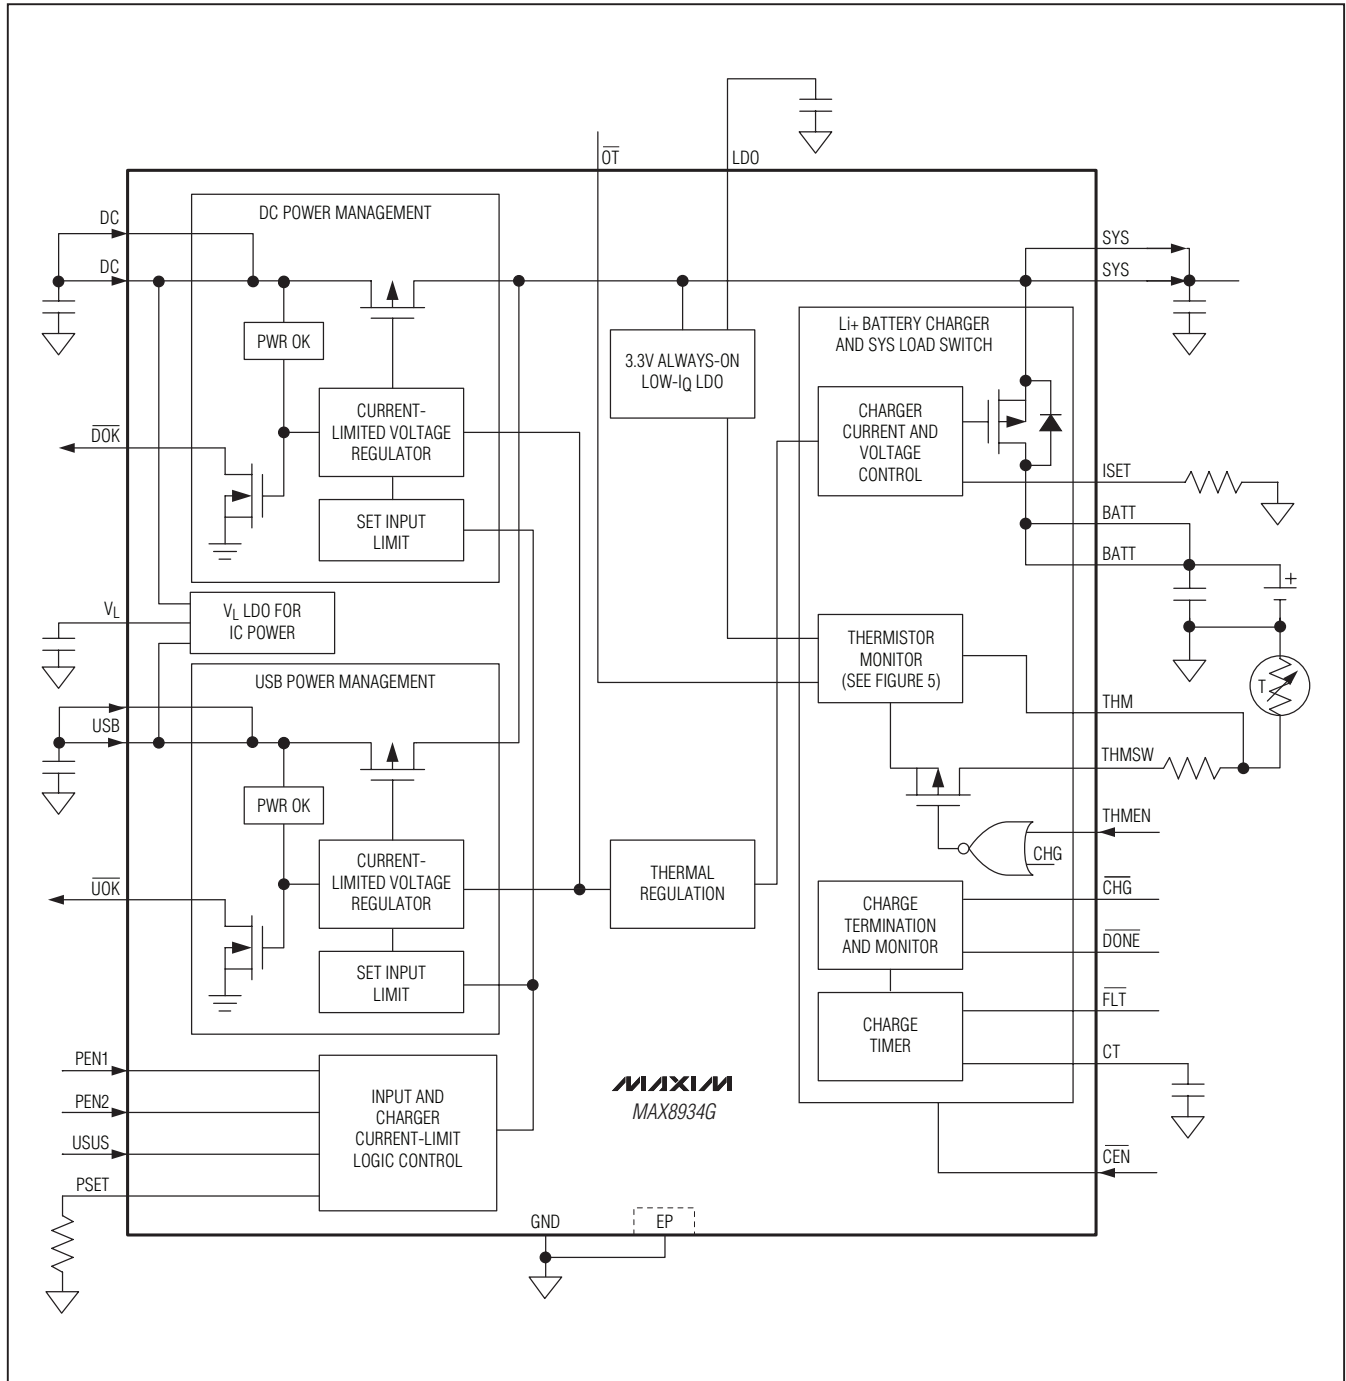
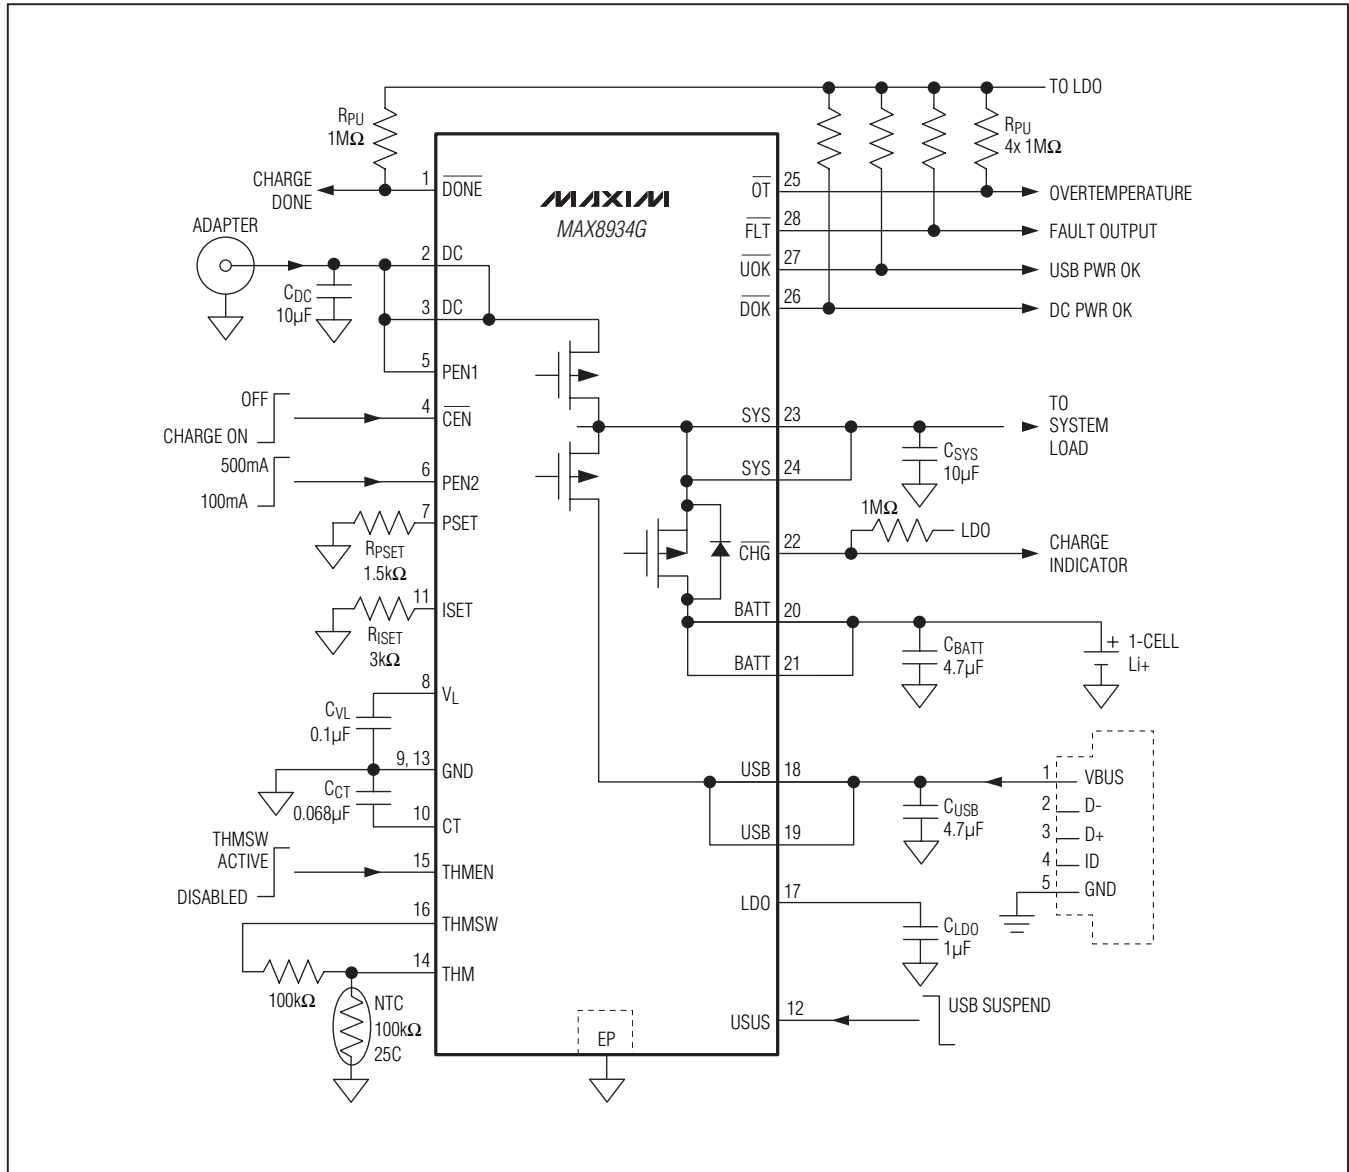
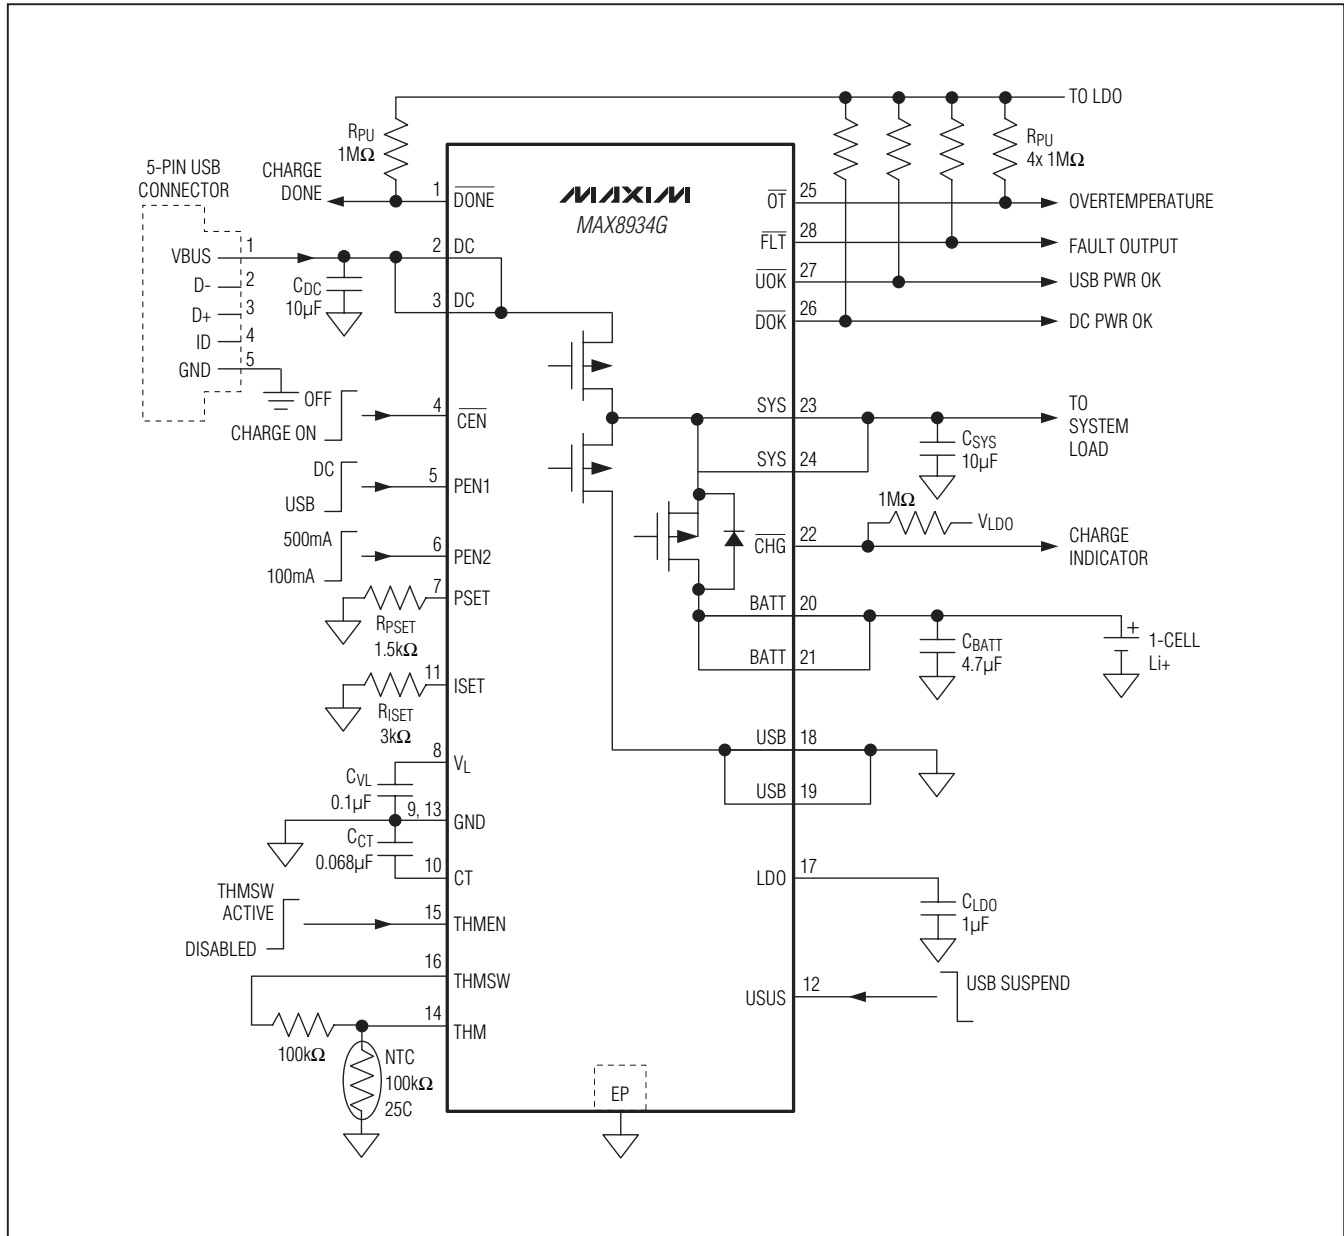

Figure 1. Block Diagram
Figure 2. Typical Application Circuit Using Separate DC and USB Connector
Figure 3. Typical Application Circuit Using a 5-Pin USB Connector or Other DC/USB Common Connector
( $T_A = +25^\circ\text{C}$ , circuit of Figure 2,  $V_{DC} = 6\text{V}$ ,  $V_{BATT} = 3.6\text{V}$ , thermistor Beta = 3964, unless otherwise noted. Negative battery current indicates charging.)
**Table 1. External Components List for Figures 2 and 3**
The MAX8934G is a dual-input linear charger with Smart Power Selector that safely charges a single Li+/Li-Poly cell in accordance with JEITA specifications. The MAX8934G integrates power MOSFETs and control circuitry to manage power flow in portable devices. See Figure 1. The charger has two power inputs, DC and USB. These can be separately connected to an AC adapter output and a USB port, or the DC input could be a single power input that connects to either an adapter or USB. Logic inputs, PEN1 and PEN2, select the correct current limits for two-input or single-input operation. Figure 2 is the typical application circuit using separate DC and USB connectors. Figure 3 is the typical application circuit using a 5-pin USB connector or another DC/USB common connector.